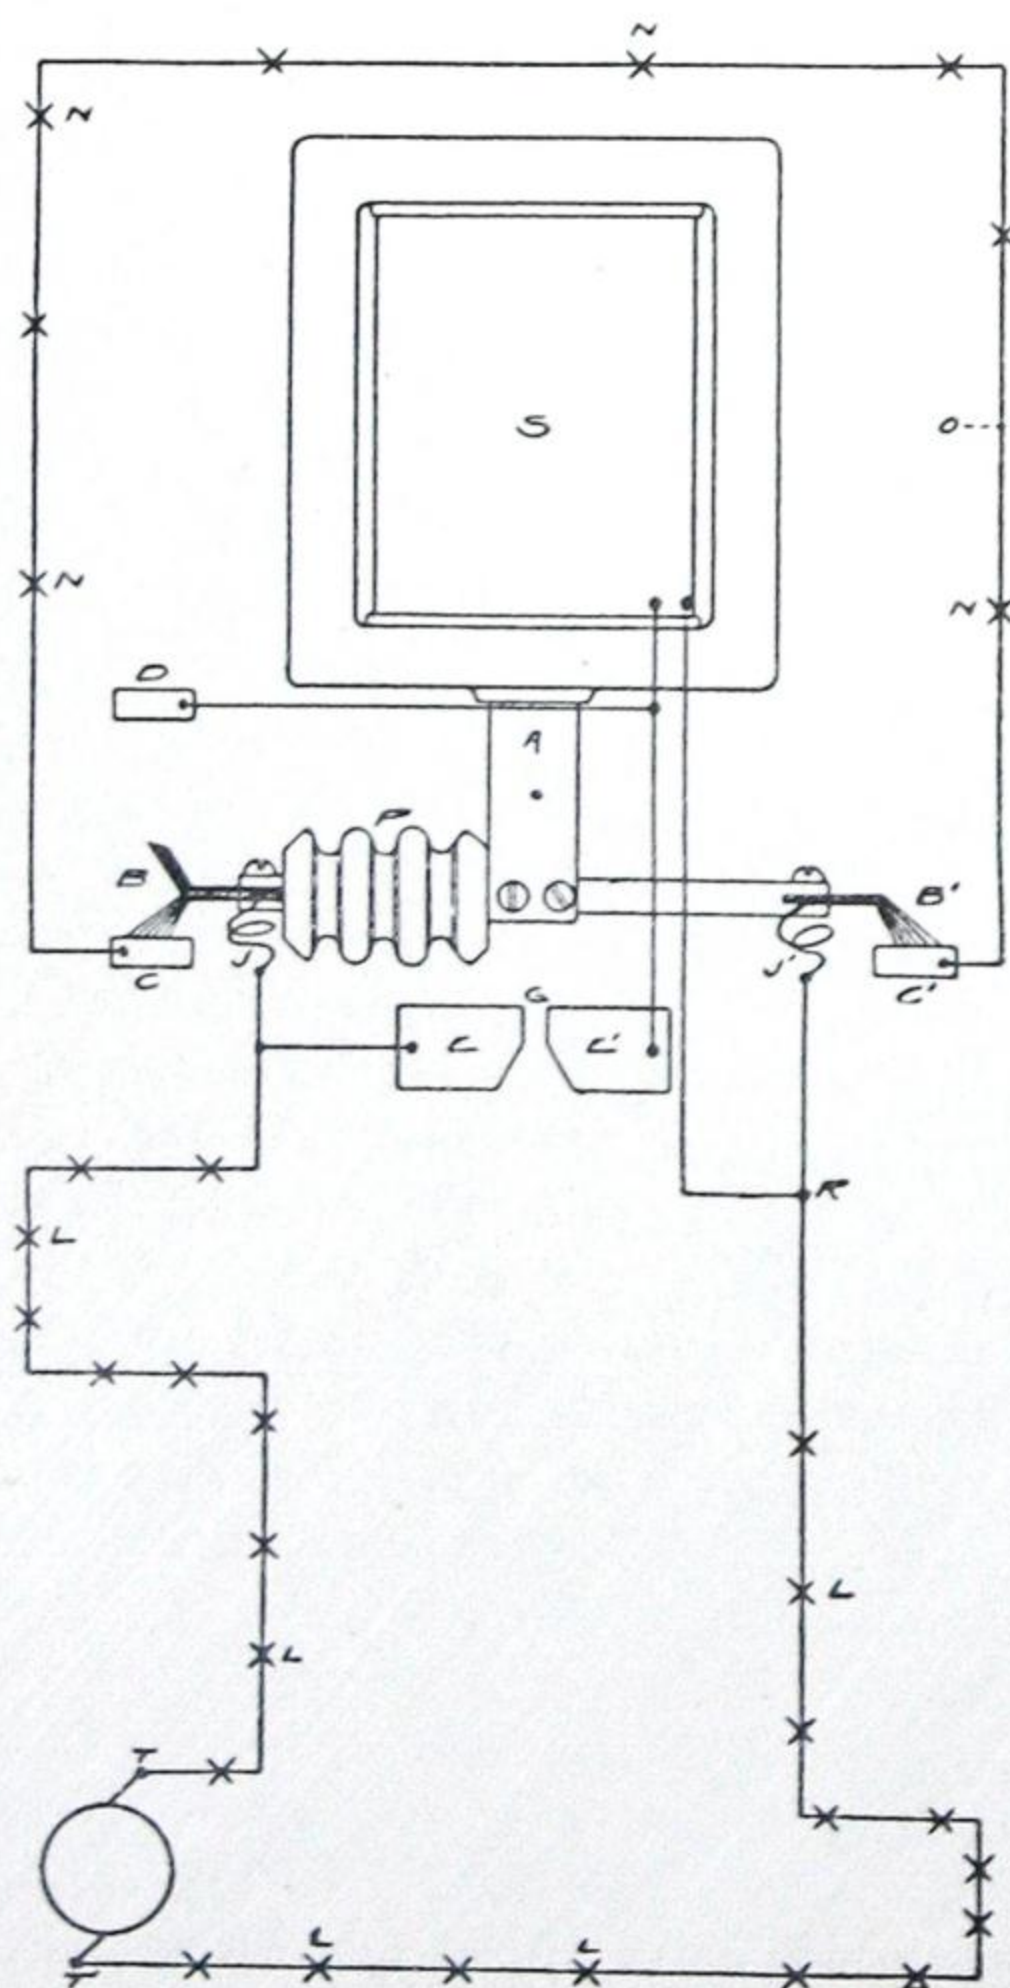
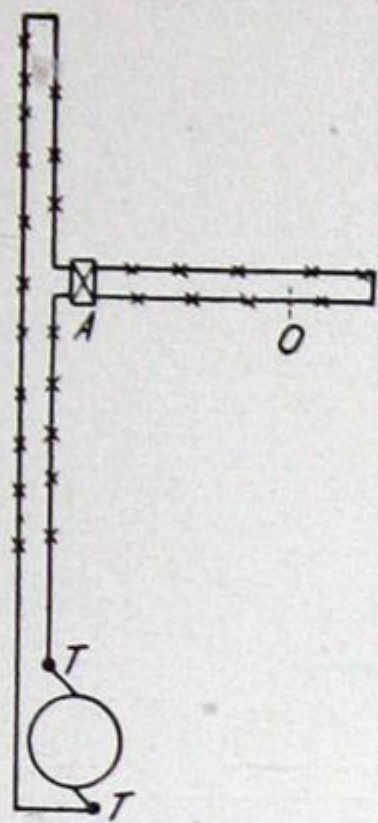

FIG. 3—DIAGRAM OF CIRCUITS
FIG. 4
**Circuit**—In Fig. 3, the circuit, under normal conditions, starts from the terminal  $T$  of a constant-current dynamo or constant-current transformer, passes through the series lamps  $L, L$ , etc., along the flexible conductor  $J$ , to the laminated contact  $B$  and contact plate  $C$ , through the lamps  $N, N$ , etc., to contact plate  $C^1$  and laminated contact  $B^1$ , along flexible conductor  $J^1$ , through balance of lamps  $L, L$ , etc., to terminal  $T^1$  of the dynamo or transformer.
Fig. 4 shows one of the simplest applications of the cutout, which being placed at *A*, protects the loop beyond it. If a break occurs as at *O*, the cutout will operate, disconnecting this loop entirely from the balance of the circuit, and short-circuiting the line at *A*, keeping the remainder of the circuit in operation. The defective loop now being dead, can be repaired and re-connected into the circuit as described in the discussion of Fig. 3.
The adjustment of the spark gaps is not a delicate or difficult operation, it being only necessary to see that the gaps have an increasing length as they approach the station when cutouts are placed in parallel along the line. Where a cutout protects a loop, as in Fig. 4, the gap may be any length, provided it is not so great that the full line potential difference will not break it down, or so short that the potential difference normally existing at the point *A*, Fig. 4, is sufficient to break it down.